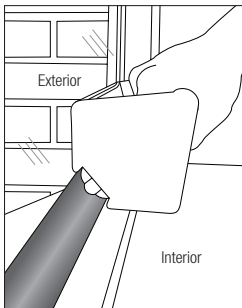

Figure 4
9. Once you are satisfied that the 3M Profile is straight, turn the tool around so that the roller side is forward. Make sure to locate the tool so that the sliding surfaces on the roller side stay flush against the window and frame. (Figure 4)